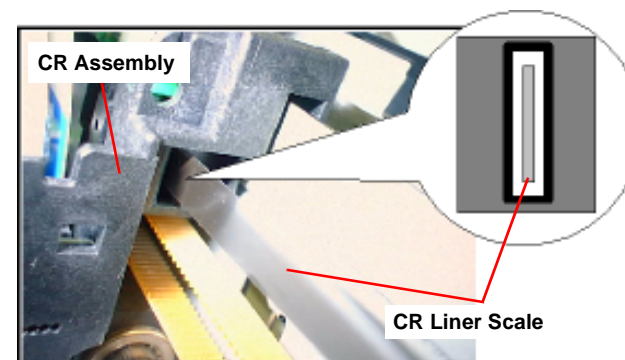

Figure 4-49. Checking the CR Encoder Slit Plate condition
- After setting the CR Liner scale into the slot, ensure that the CR Liner scale is not in contact with either side of the slot in the CR unit. Refer to Figure 4-49.